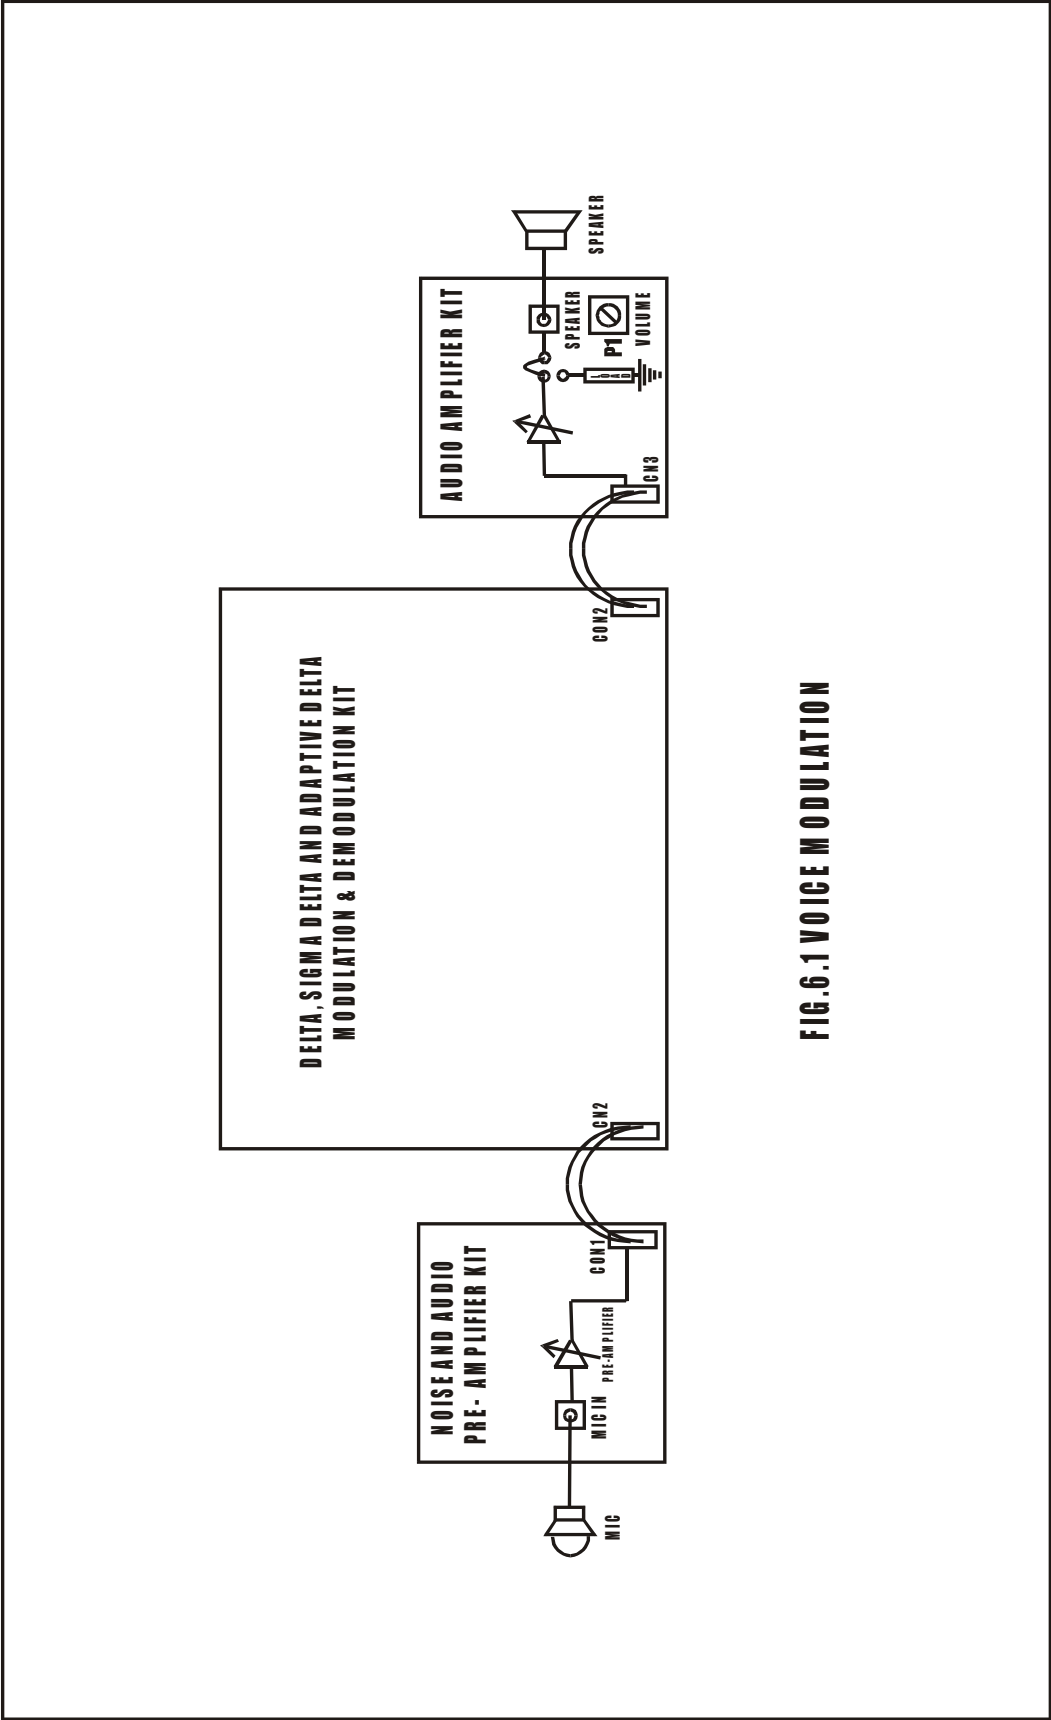

FIG.6.1 VOICE MODULATION
1. Refer to the block diagram (Fig. 6.1) and carry out the following connections.